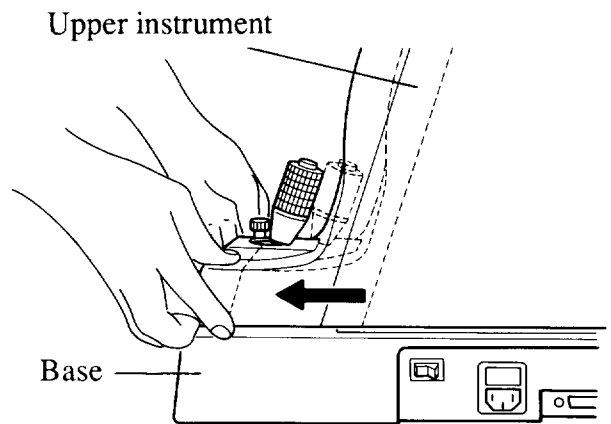

Figure 2-6
- ⑤ Pull the upper portion of the instrument to securely place it on the base.
Whenever you transport the instrument, tighten the four securing screws described in Steps ② and ④ above to prevent the internal parts from being damaged by vibration or shock. Before tightening the securing screws for transport, move the instrument in the opposite direction as shown in Figure 2-6.